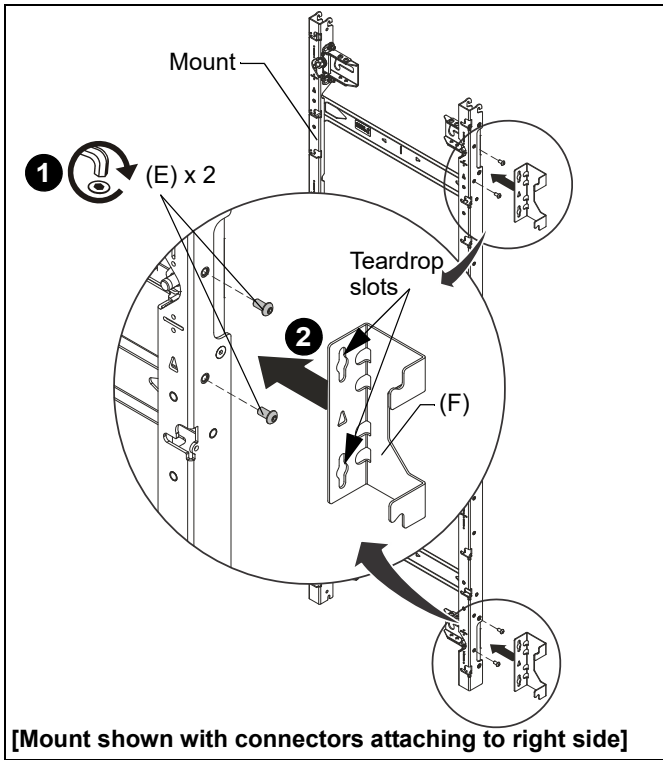

Figure 4
1. Slide the vertical connector (P) down from the top of the mount, and attach with two 1/4-20 x 1/2" Phillips pan head screws (N) per vertical connector. (See Figure 4)
2. Loosely install one 1/4-20 x 1/2" Phillips pan head screw (N) in the lower screw hole at the top of each vertical connector (P). (See Figure 4)
1. Loosely install two 1/4-20 x 1/2" button head cap screws (E) into the mount for each side connector. (See Figure 4)
2. Hang the connector (F) on the loosely installed screws using the teardrop slots. (See Figure 4)